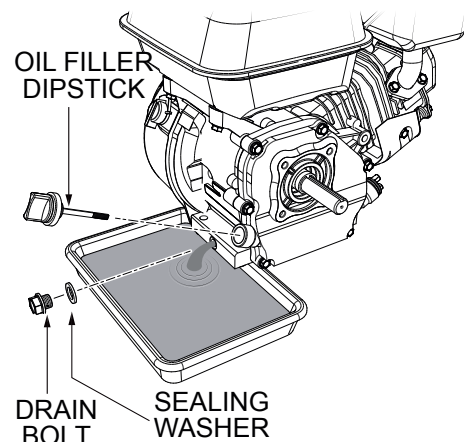

Figure 28. Draining Engine Oil
1. Drain the engine oil when the oil is warm as shown in Figure 28.